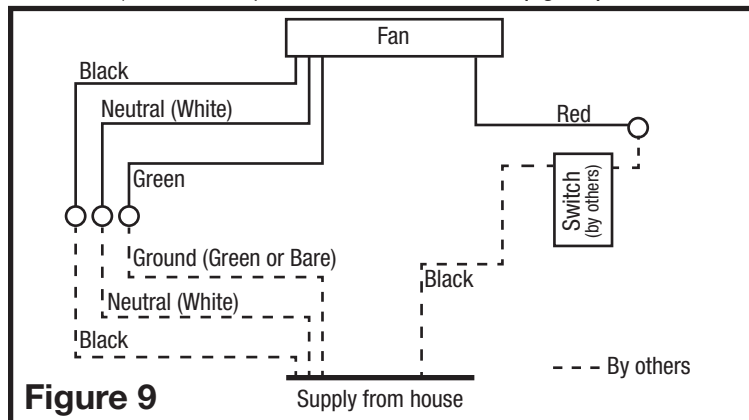

**Figure 8**
2. **Continuous Ventilation:** For two speed fans wired for continuous ventilation, connect the White wire of the fan to the White (Neutral) wire from the power source. Connect the ground wire from the house to the green wire from the fan housing. Connect the Black wire of the fan to the Black wire (Hot) from the power source. Using a properly grounded standard switch (not included) connect the Black wire from the supply to the switch. Connect the Red wire (light) from the fan housing to the other side of the switch. Using a second properly grounded standard duplex toggle switch, connect the Hot Yellow wire from the fan to the input of the switch. Connect the second Yellow wire from the fan to the output side of the switch. Closing the switch will change from normal to high speed (Figure 8).